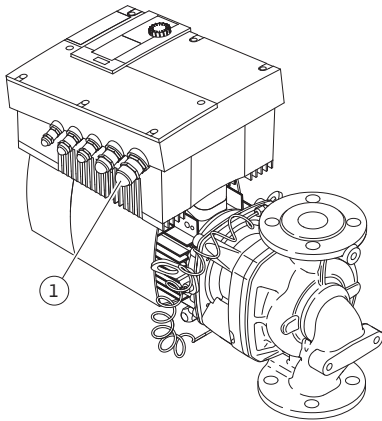

Fig. 27: M25 threaded cable gland
- The power cable is to be fed through the M25 threaded cable gland (Fig. 27, Item 1).